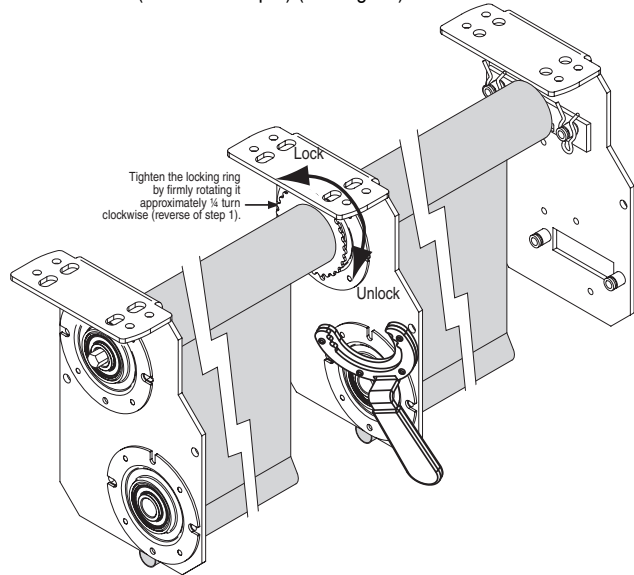

Figure 17
- ④ Allow the fabric/roller assembly being adjusted to move back away from the operator end of the unit, and check the position of the fabric panels.
- ⑤ Tighten the locking ring by using the included Spanner to rotate it approximately  $\frac{1}{4}$  turn clockwise (reverse of step 1) (see Fig. 17).